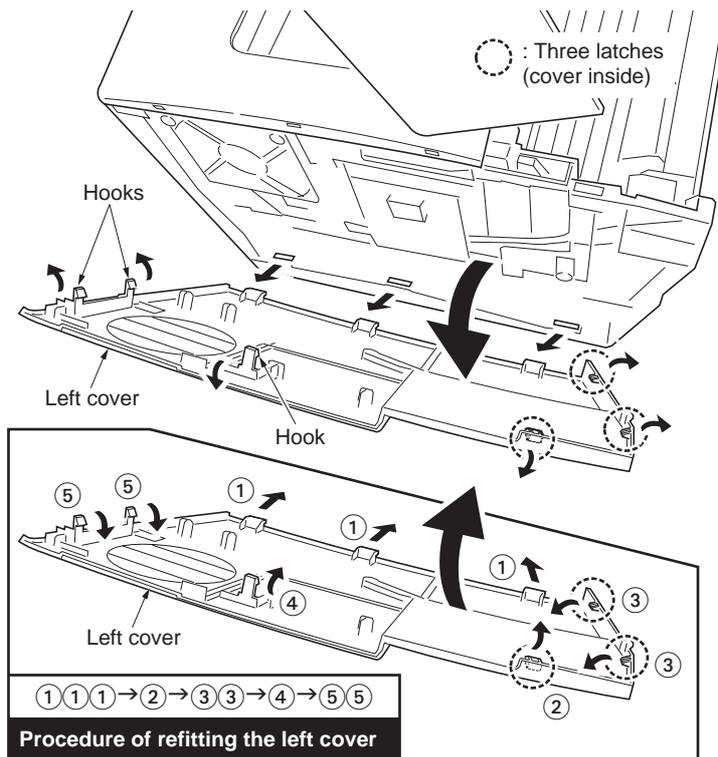

Figure 1-6-3 Removing the left cover
- \* When refitting the left cover, attach in order (1) to (5) shown in a figure 1-6-3.